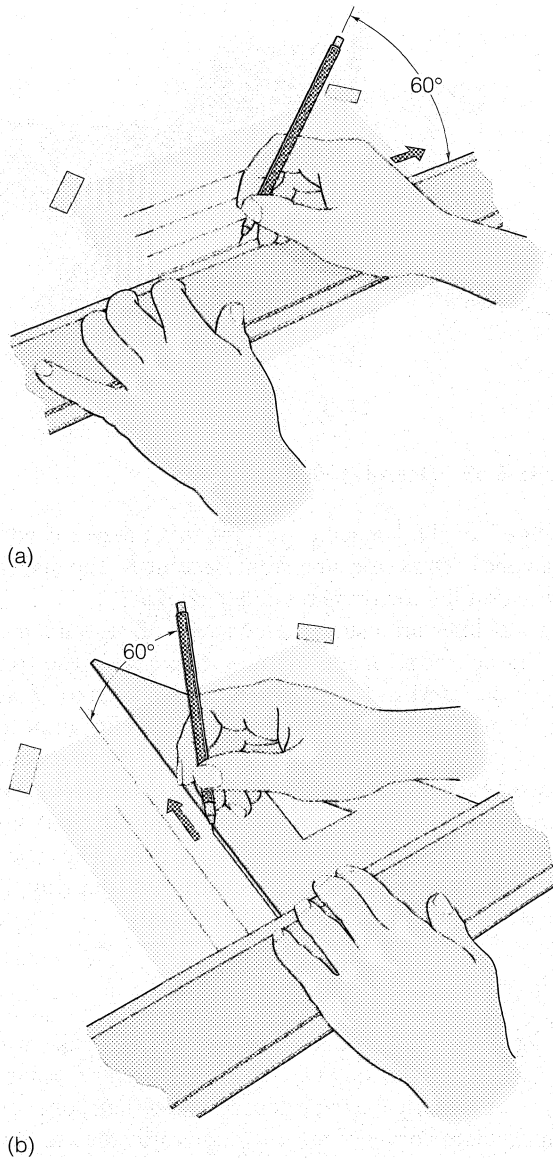

FIGURE 6.57 Angling the Pencil While Drawing
1. Incline the pencil or the lead holder so it makes an angle of about  $60^\circ$  with the surface of the paper. Pull the pencil in the direction in which it is leaning (Fig. 6.57). Keep the pencil at a consistent angle as you draw the line.